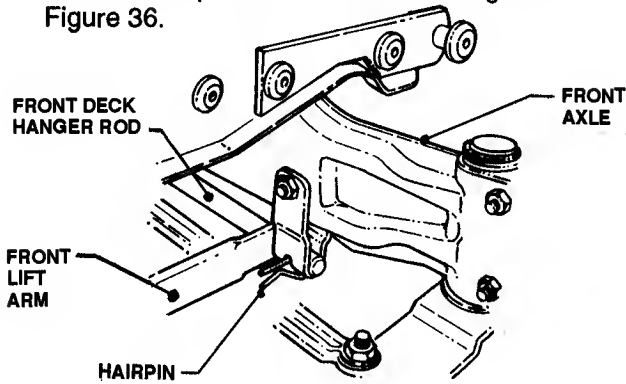

FIGURE 36
10. Remove hairpins from front deck hanger rod. See Figure 36.
1. Place a piece of angle iron under lip at center rear of deck. See Figure 36.